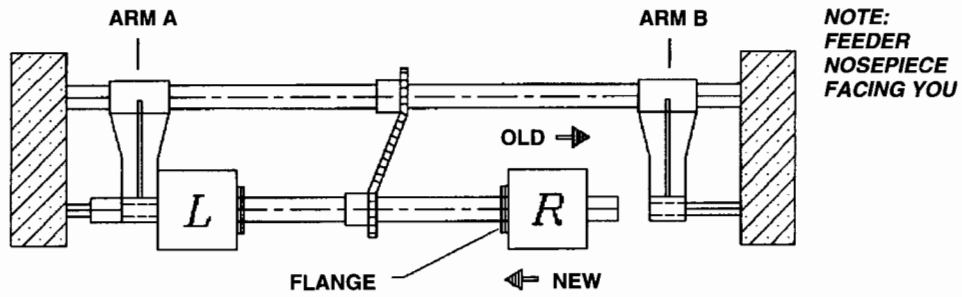

Figure 4-7. Roller-right Replacement
10. Remove the Roller-right and replace it with the new matching Roller-right from your Roller Replacement Kit, as shown in figure 4-7.